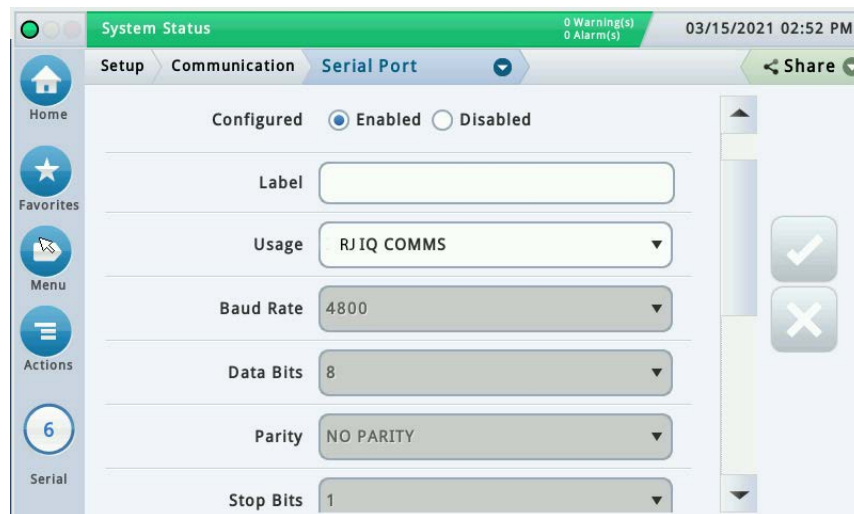

Figure A-12. RJ IQ Comms Setup Screen
1. At the TLS-450PLUS display touch **Menu>Setup>Communication>Serial Port** (see Figure A-12).